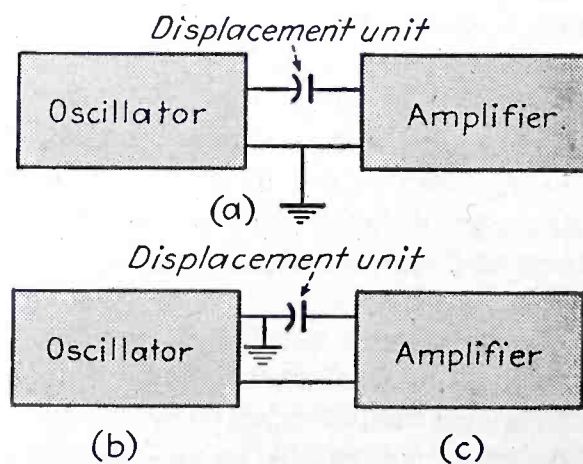

FIG. 1—Block diagram showing position of displacement unit and two possible grounding arrangements
which patent application has been made, is essentially free from these drawbacks. It is based on insertion of the displacement unit between an r-f oscillator and an r-f amplifier, as shown in Fig. 1(a). If the capacitance decreases, the input will decrease. The resulting arrangement is highly independent of variations in circuit constants.
For practical reasons, it is in most cases desirable to connect one plate of the displacement unit to ground. If this is done, the other oscillator terminal and both amplifier input terminals must be removed from ground, as indicated in Fig. 1(b).
FIG. 1—Sample tests on inter-lens shutters. Arrows indicate beginning and end of photographic traces and hence determine shutter opening and closing. (A) 720 cps vertically with sweep slightly differing from 120 cps. Nominal exposure, 1/200 sec.; actual exposure, 1/125 sec. (B) Same as (A) except shutter set between 1/100 and 1/50 sec. Actual exposure, 1/72 sec. (C) 240 cps vertically with sweep just above 60 cps. Nominal exposure 1/25 sec.; actual exposure 1/20.5 sec. (D) 120 cps vertically with sweep just above 30 cps. Nominal exposure 1/10 sec.; actual exposure, 1/8.4 sec.